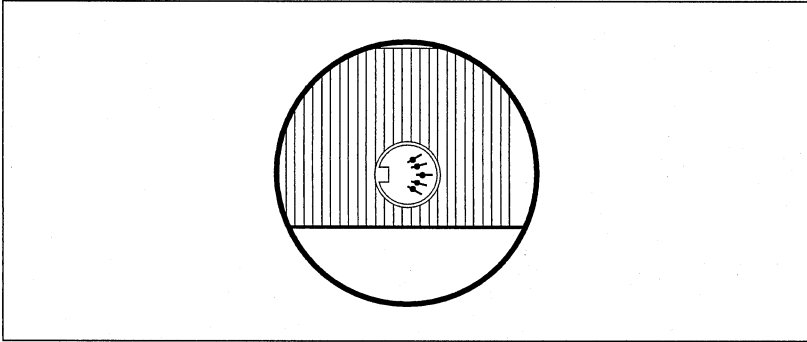

fig. 1-3
5. Connect the keyboard's coiled cable to the keyboard jack on the left side of the main unit (fig. 1-3). If you have a 101-key keyboard, connect the other end of the cable to the socket on the left side of the keyboard. If you have an 86-key keyboard, the coiled cable is permanently attached to the keyboard.